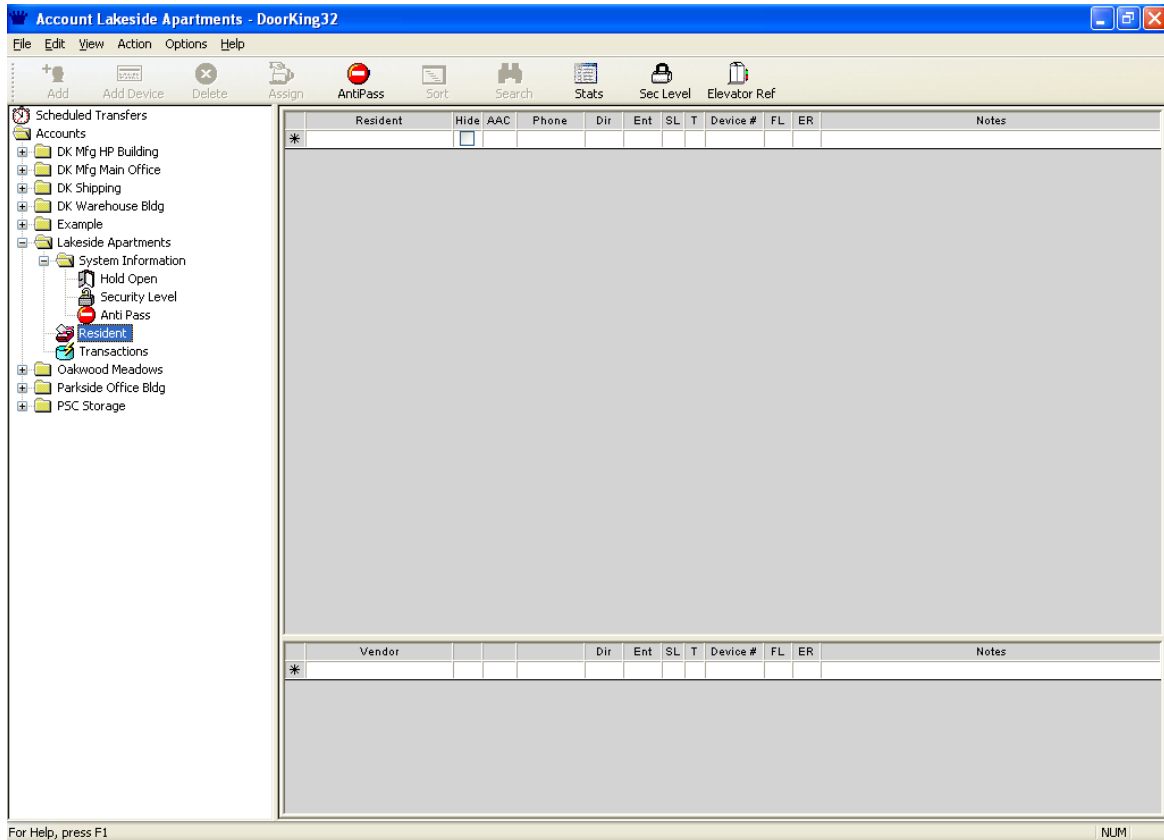

Figure 49
3. The User (Resident) information screen will appear (Fig 49).